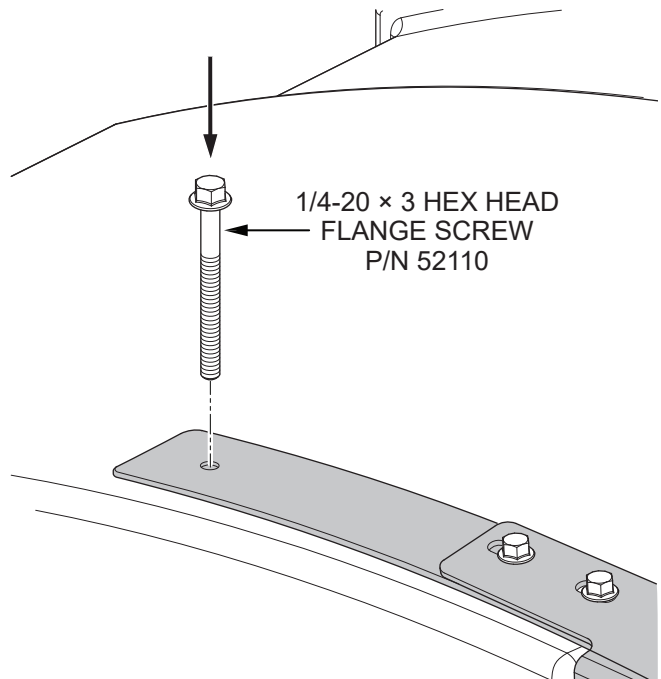

**Figure 9. Drill New Holes**
2. Using a 3/8" drill bit, drill a hole into the water tank at each of the marked locations (Figure 9).